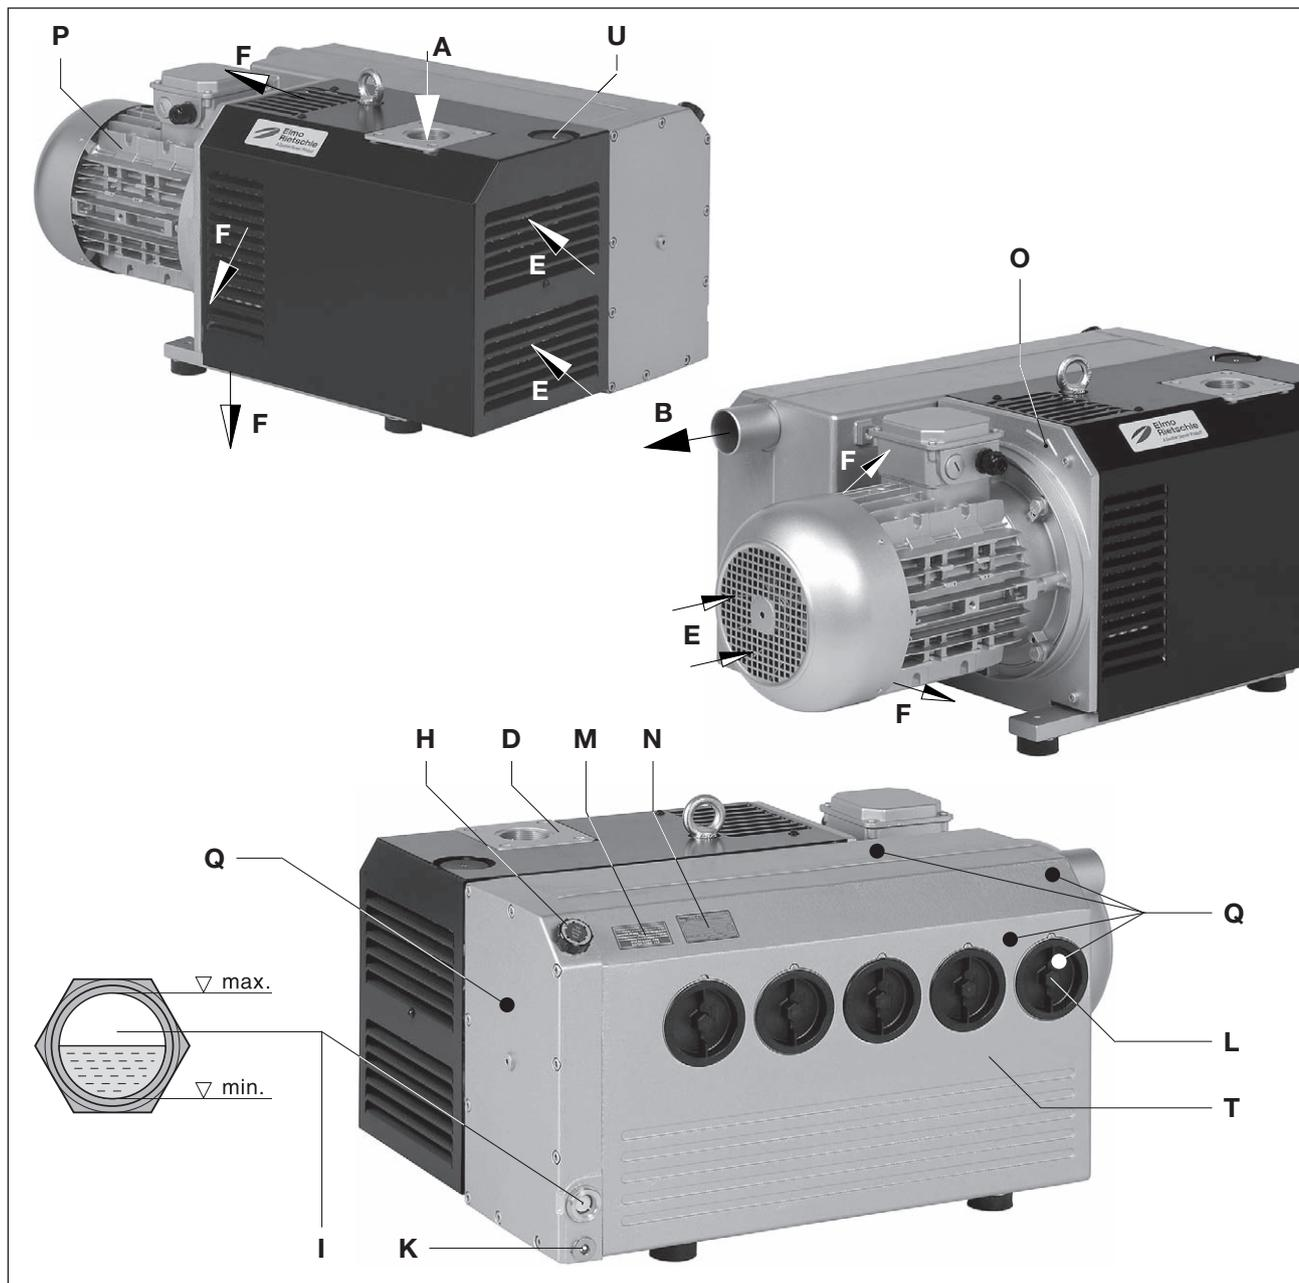

Fig. 2 Vacuum pump V-VC 202 / V-VC 303
A gas ballast valve fitted as standard (Fig. 2/U) prevents condensation of water vapour in the inside of the pump when low amounts of steam are sucked in when the pump is at operating temperature. A reinforced gas ballast (optional) can be used if there is a higher amount of water vapour.
The suction flange (Fig. 2/D), oil filling point (Fig. 2/H), oil sight glass (Fig. 2/I), oil outlet (Fig. 2/K), gas ballast (Fig. 2/U) and the oil removing device housing (Fig. 2/T) must be easily accessible. The cooling air inlets (Fig. 2/E) and the cooling air outlets (Fig. 2/F) must be at least 30 cm away from adjacent walls. Cooling air coming out must not be sucked in again. For maintenance work there must be a space of at least 50 cm around the machine.
Sealing or constricting of the exhaust air outlet (Fig. 2/B) may lead to severe or fatal injuries!
- a) The vacuum connection (Fig. 2/A) can be found on the suction flange (Fig. 2/D).
- b) The discharged air can be freely blown out through the exhaust air hole (Fig. 2/B) or conducted away using a hose or pipe.
- a) Fill the lubricating oil (for suitable types see the "Maintenance" section) via the oil filling point (Fig. 2/H) up to the upper edge of the sight glass (Fig. 2/I).
- a) The motor's electrical data is given on the data plate (Fig. 2/N) or on the motor data plate. The motors comply with DIN EN 60034 and are in protection class IP 55 and insulation class F. The appropriate connection diagram is located in the motor's terminal box (not for the plug connection version). Compare the motor data with the data of the existing mains network (current type, voltage, network frequency, permitted current value).
When the machine is at operating temperature the surface temperatures on the components (Fig. 2/ Q) may go above 70°C. You must avoid touching the hot surfaces (marked with warning plates).
- ▷ The drive shaft direction of rotation is shown by the rotation direction arrow (Fig. 2/O) on the motor flange.
- b) After correcting the direction of rotation if necessary, start the motor again and stop it again after 2 minutes in order to top missing oil up to the upper edge of the sight glass (Fig. 2/I). This topping up at the filling point (Fig. 2/ H) must be repeated until all the oil pipes have been filled completely. The filling point must not be open when the pump is running.